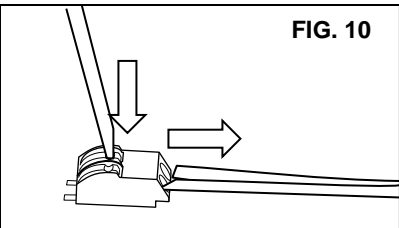

FIG. 10
- Detach the LED DRIVER WIRES from the LED TERMINAL BLOCK by depressing down on the provided TERMINAL TABS. (FIG. 10)